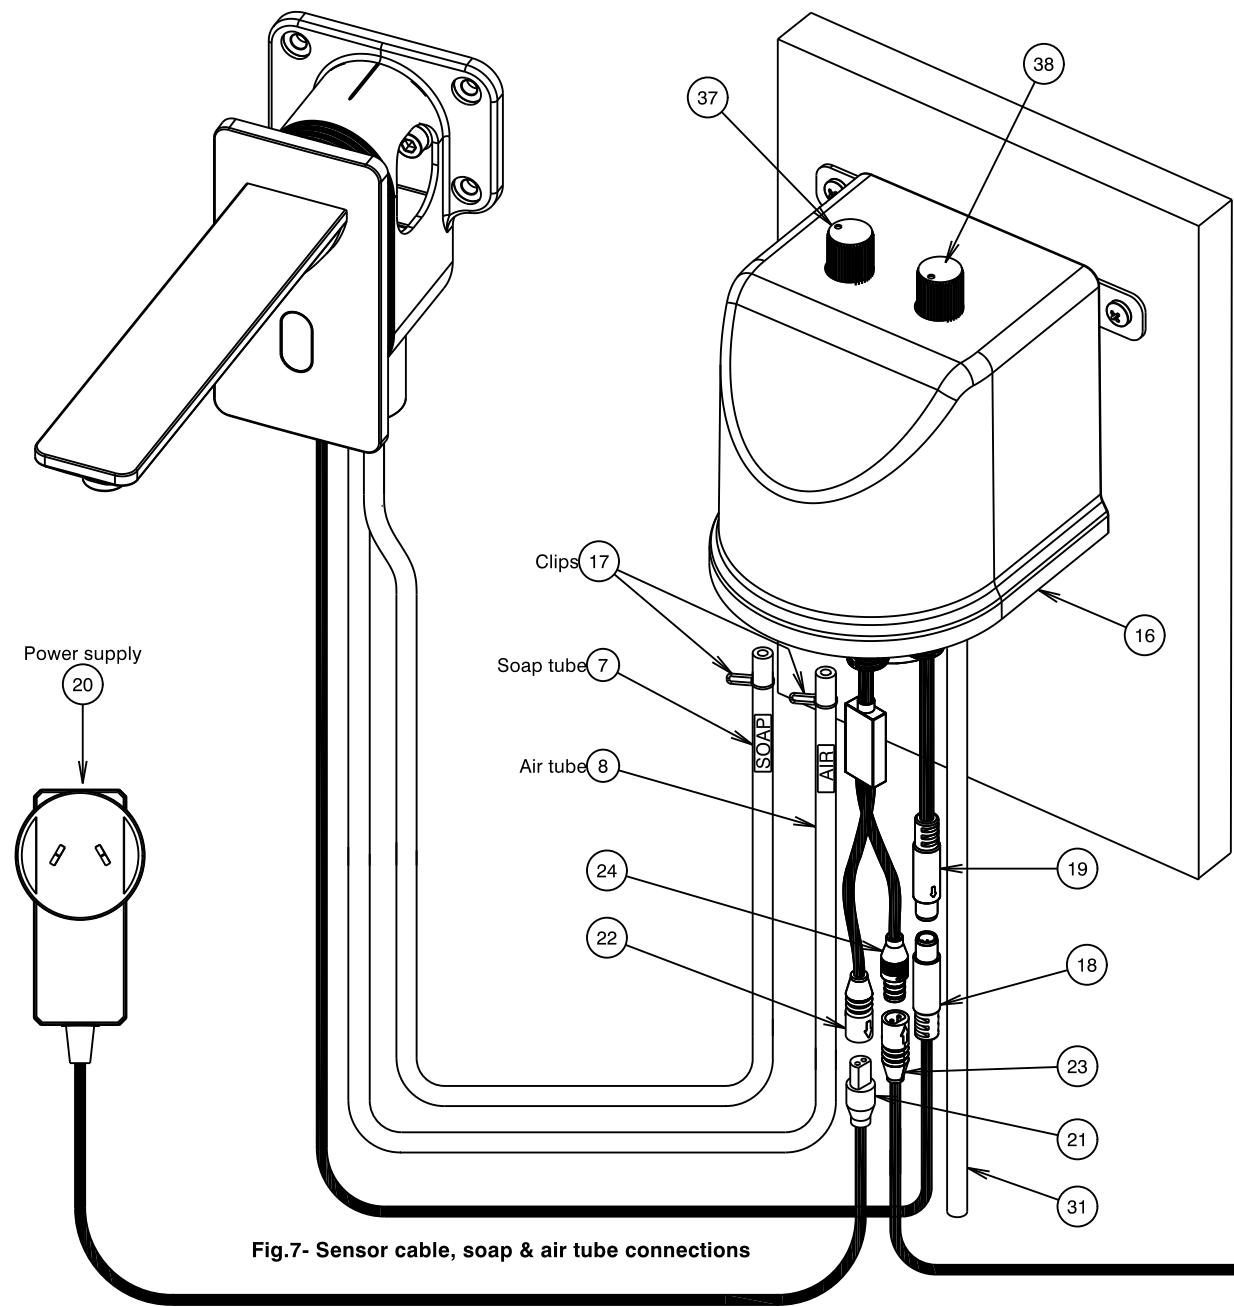
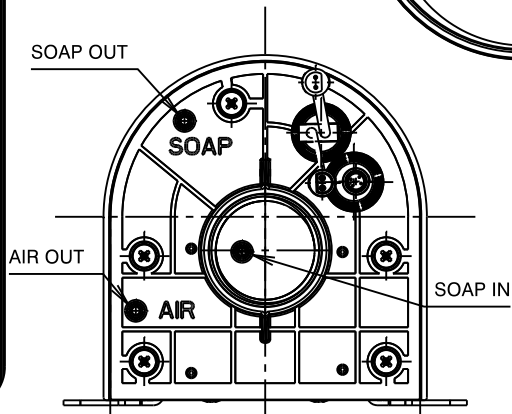

Fig.7- Sensor cable, soap & air tube connections
Fig.11 - Soap control unit ports
- a) **Soap tube and air tube connections, (Fig. 7 & Fig. 11):**
- b) **Sensor cable connection, (Fig.7):**
While aligning the 'D' profile of male and female connectors, connect male connector of power cable (21) from power supply (20) to female connector (22) of soap control unit (16) as shown in Fig. 7. Connect male connector (24) to female connector (23) of battery box (25). Ensure all cable connectors are pushed in fully.